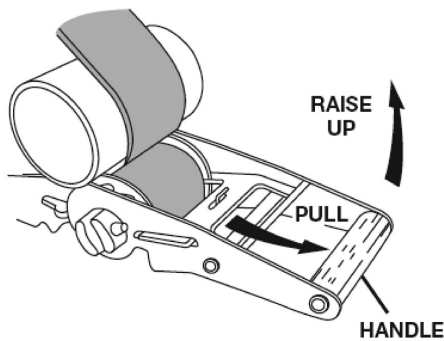

Figure 14
2. Free both tire straps from the ratchets. Pull on the tire strap ratchet release and raise the handle as far up as you can; (Figure 14) then pull on the tire strap to unroll and remove strap from the spool. Lay the strap assembly to the outside of the AT, or on the AT platform.